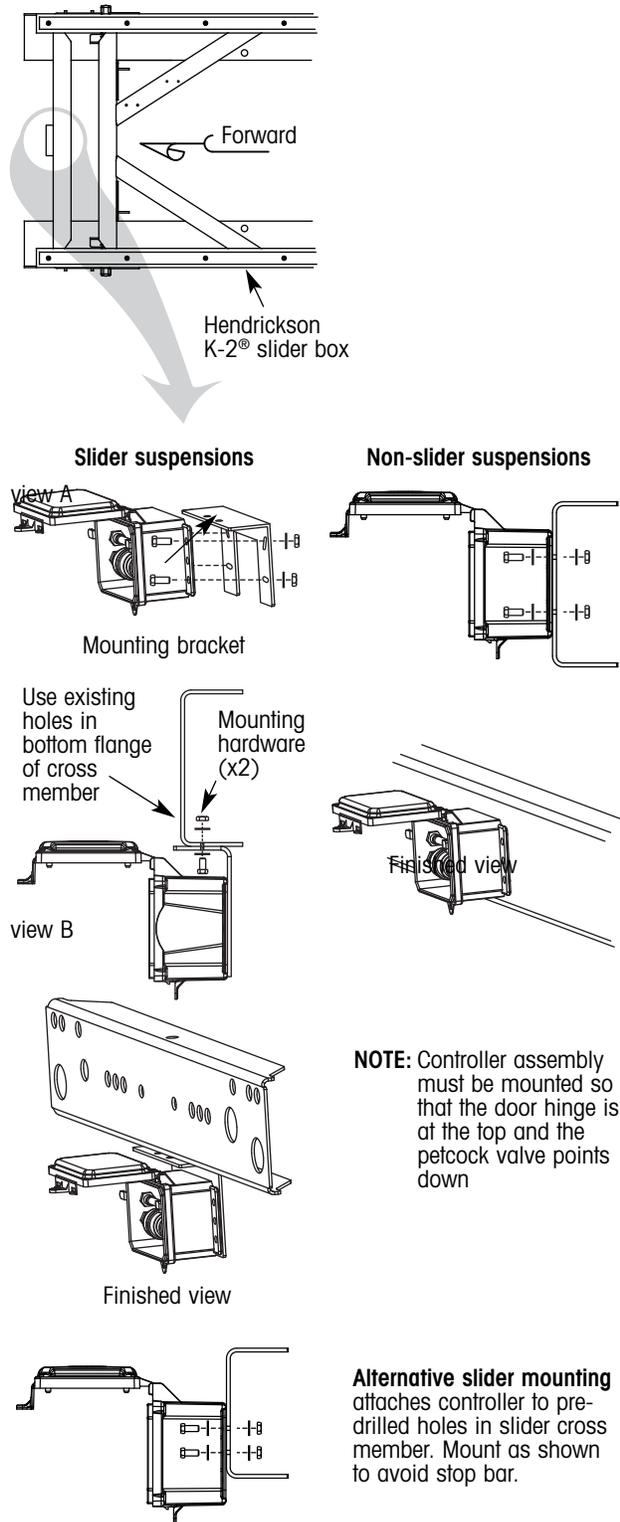

Figure 19. Controller assembly installation
Hendrickson recommends the forwardmost cross member as the controller assembly mounting location (figure 19). A mounting bracket is included so the controller assembly can be mounted without
drilling holes in the cross member. On slider suspensions, the bracket and controller assembly must be mounted below the cross member as shown in figure 19 to avoid interference with the slider stop bar. On non-slider suspensions, the controller can be mounted below the cross member as shown in figure 19 or flush mounted to the vertical surface of the cross member if desired, since slider stop bar interference is not an issue.
1. Attach each corner of the controller assembly to the bracket with the four 5/16-inch bolts, washers and nuts as shown in figure 19, view A. Orient the enclosure so that the door hinge is at the top and the petcock valve points down.
2. Attach the controller and bracket assembly to the existing holes in the bottom surface of the cross member as shown in figure 19, view B.
⚠ **WARNING** Failure to properly orient the controller and mounting bracket as shown in figure 19 and described above will result in slider stop bar interference and controller assembly damage.
Use the slider assembly mounting method described above, or attach each corner of the controller assembly directly to the vertical surface of the cross member with the four 5/16-inch bolts, washers and nuts (figure 19). Orient the enclosure so that the door hinge is at the top and the petcock valve points down (figure 19).
⚠ **CAUTION:** The controller assembly must be mounted so that the door hinge is at the top and the petcock valve points down (figure 19).